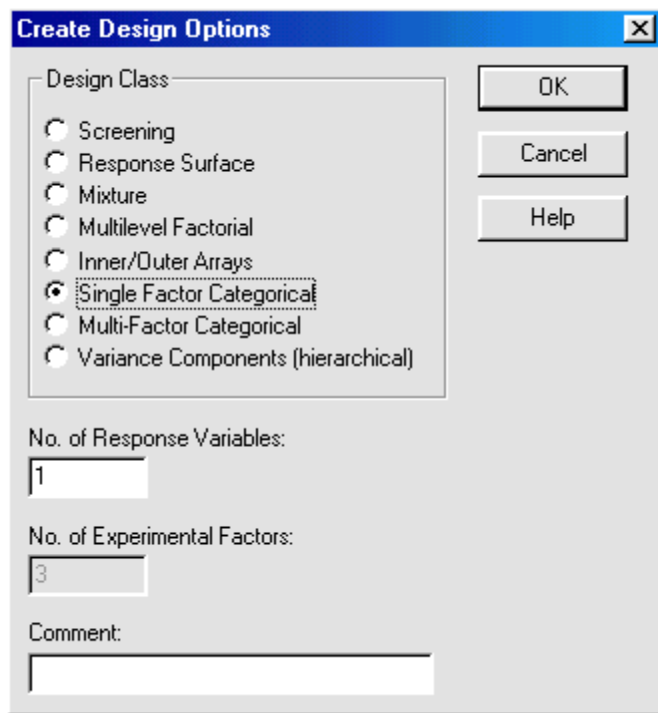

Figure 8-1. Create Design Options Dialog Box (Single Factor Categorical Designs)
1. Choose **SPECIAL... EXPERIMENTAL DESIGNS... CREATE DESIGN...** from the Menu bar to display the Create Design Options dialog box shown in Figure 8-1.